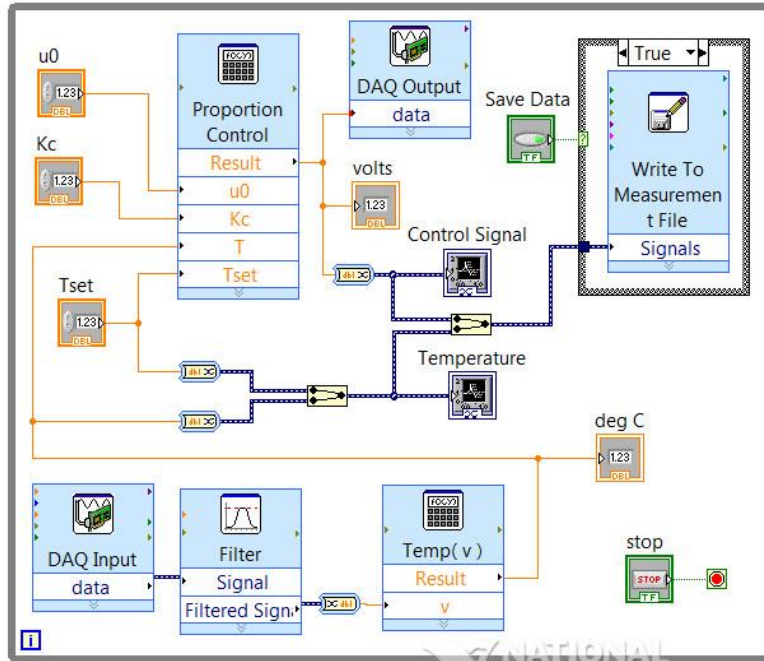

Figure 2. Labview block diagram.
- d. Connect wires as shown in Figure 2. You will need to including a merge signals block: **[Express]**→**[Signal Manipulation]**→**[Merge Signals]**